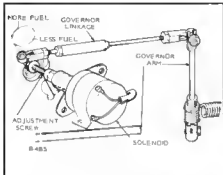

FIGURE 3-54. FUEL SOLENOID
This solenoid is also referred to as a governor solenoid as it overrides the governor, Figure 3-54. The solenoid is mounted on the cylinder air housing bottom pan and controls the injection pump throttle lever. When energized, the plunger is in the solenoid body. When de-energized, the solenoid spring forces the plunger against the operating arm to shut off fuel. The solenoid has two coils. Both are energized for pulling the plunger in. When the plunger bottoms, it opens a set of contacts, de-energizing the pull-in coil. The other coil holds the plunger in.
1. Loosen locknuts on governor linkage and then remove link at one ball joint, Figure 3-54.